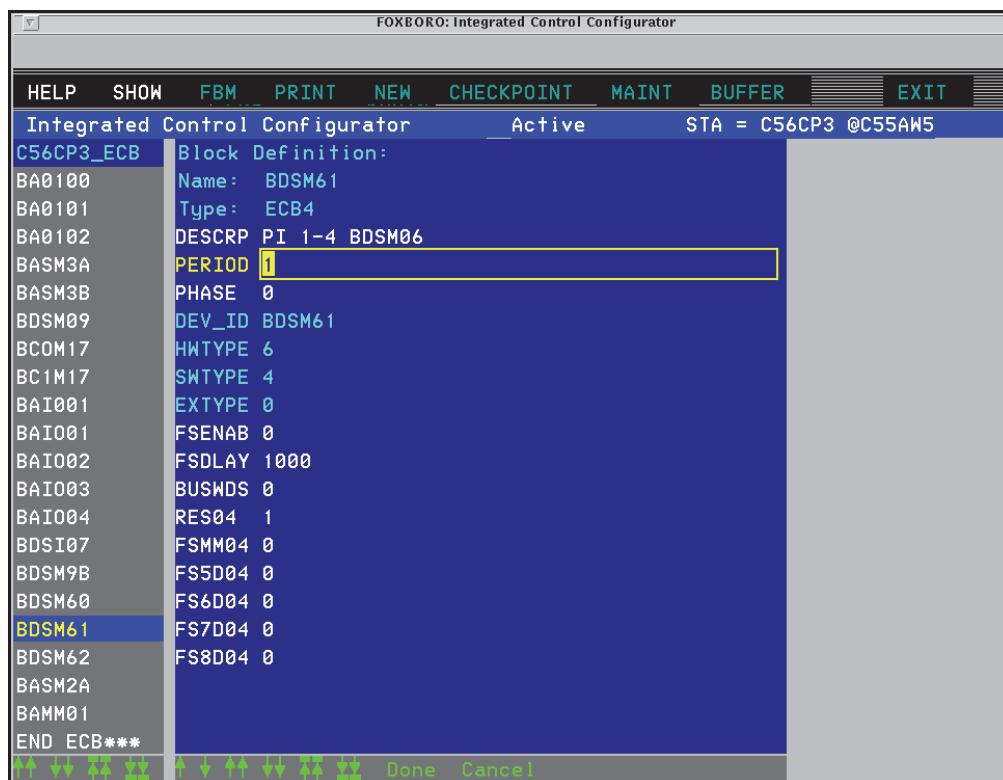

Figure D-11. Example Configuration, First FBM06 ECB (BDSM61) for BDSM06 (SMDH)
- ◆ The last character of the first FBM06's ECB DEV_ID must be **1**, as shown in Figure D-11.